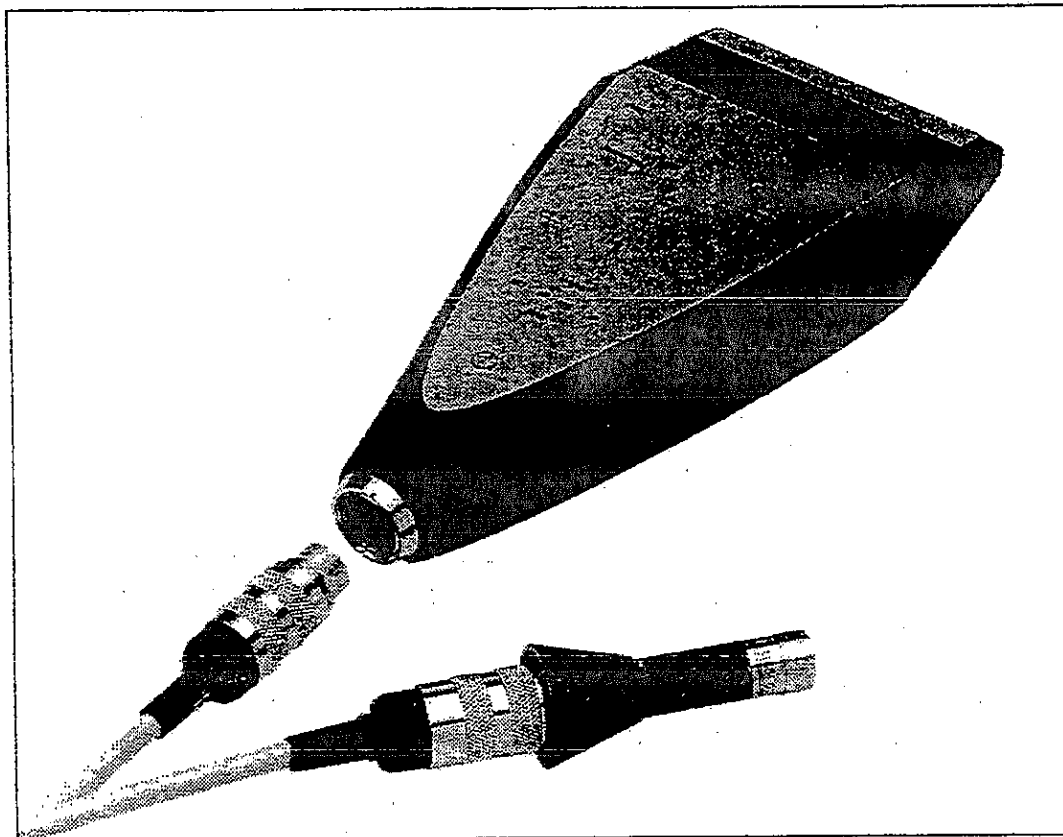

Fig. 3.2 Connecting a microphone extension cable to the sound level meter
3. Insert the other end of the microphone extension cable into the input stage socket and secure by turning the threaded retaining ring (see Fig. 3.2).